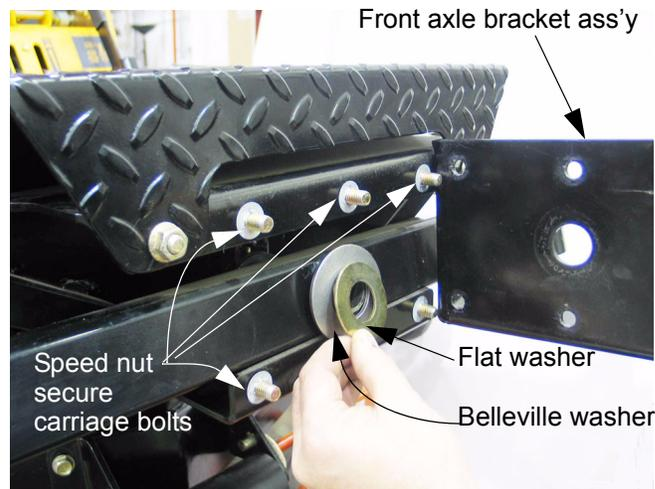

Figure 27.35
27.35. With the front axle bracket removed, the flat washer and belleville washer at the front of the pivot point will be exposed. See Figure 27.35.